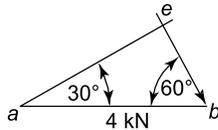
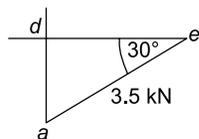
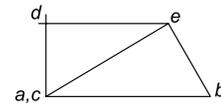

Figure 6.16
Figure 6.17
Figure 6.19
Consider joint  $ABE$ , as there are only two unknown forces here, namely the forces in the members  $BE$  and  $EA$ . Working clockwise around this joint, the vector diagram for this joint is shown in Figure 6.16.
Joint (2) cannot be considered next, as it has three unknown forces, namely  $H_2$ ,  $R_2$  and the unknown member force  $DE$ . Hence, joint (1) must be considered next; it has two unknown forces, namely  $R_1$  and the force in member  $ED$ . As the member  $AE$  and its direction can be obtained from Figure 6.16, it can be drawn to scale in Figure 6.17. By measurement,  $de = 3$  kN.
As  $R_1$  is vertical, then the vector  $da$  is vertical, hence, the position  $d$  can be found in the vector diagram of Figure 6.17, where  $R_1 = da$  (pointing downwards).
The complete diagram for the whole framework is shown in Figure 6.19, where it can be seen that this diagram is the sum of the vector diagrams of Figures 6.16 to 6.18.